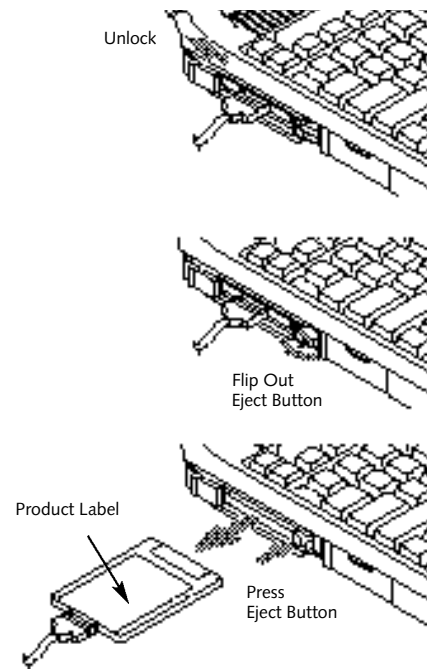

Figure 4-4 Installing and Removing a PC Card
3. Insert the PC Card in the card slot, with the product name label facing up. (Figure 4-4.)
6. When the card is installed, lock it in place by sliding the Lock Button to the right. (Figure 4-4.)
4. Press the Eject Button to eject the card. (Figure 4-4.)